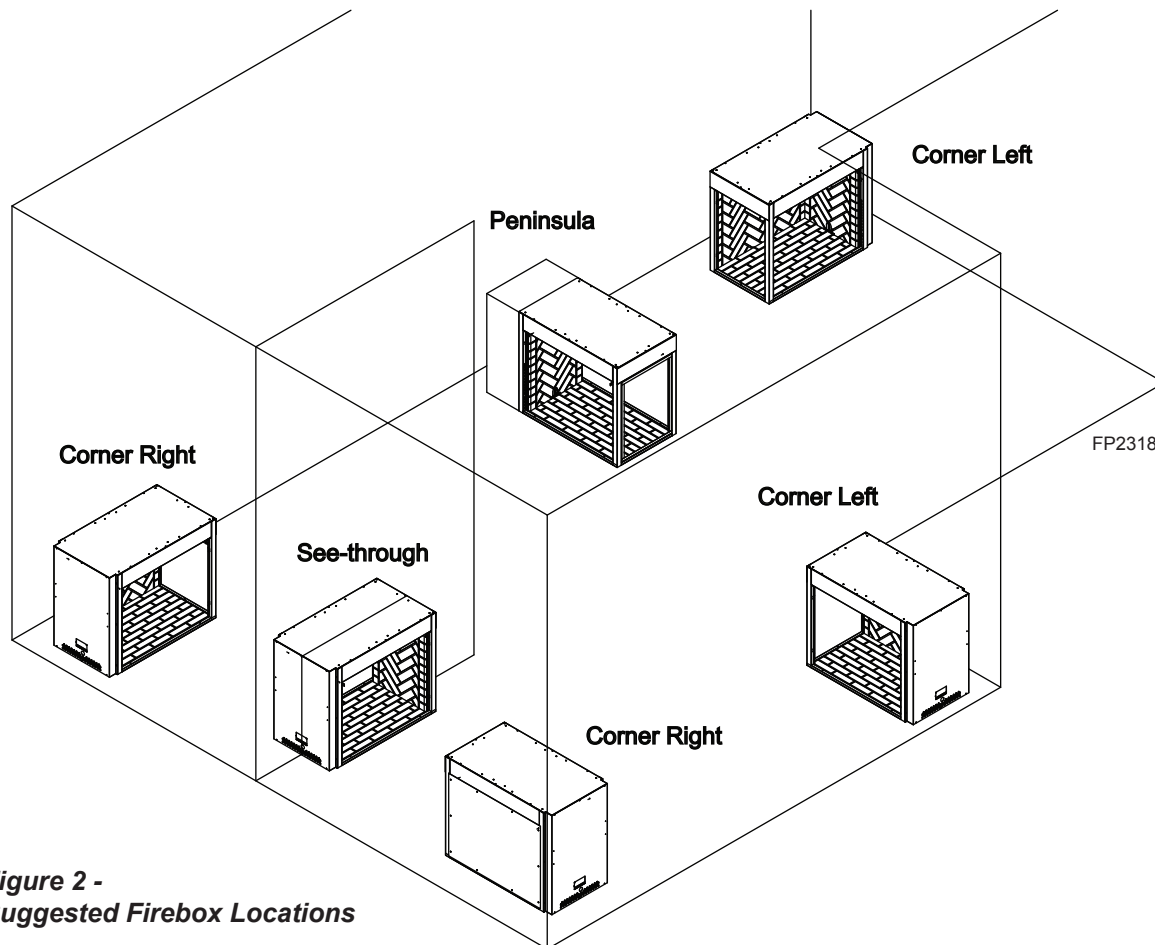

Figure 2 -
- Minimize modifications to existing construction. *Refer to Figure 2* for location suggestions.